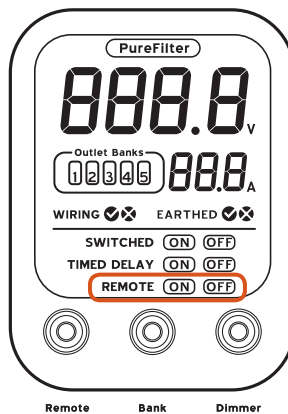

Fig. 4b
- B. Press the “Remote” button on the front of the Power Console to turn on the remote function. The LCD display should read “REMOTE ON”. (Fig. 4b)